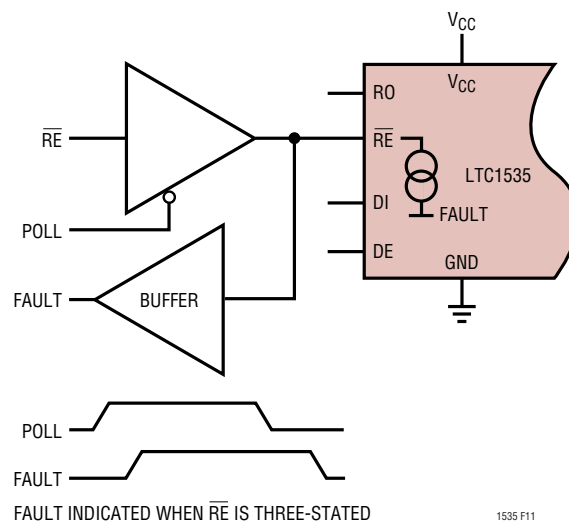

Figure 11. Detecting Fault Conditions
**RE (Pin 27):** Receive Data Output Enable TTL Input. A low level enables the receiver. This pin also provides a fault output signal. (See Figure 11.)
The  $\overline{RE}$  pin has a weak current drive output mode for indicating fault conditions. This fault state can be polled using a bidirectional microcontroller I/O line or by using the circuit in Figure 11, where the control to  $\overline{RE}$  is three-stated and the fault condition read back from the  $\overline{RE}$  pin. The weak drive has 100 $\mu$ A pull-up current to indicate a fault and 50 $\mu$ A pull-down current for no fault. This allows the  $\overline{RE}$  pin to be polled without disabling  $\overline{RE}$  on nonfault conditions.